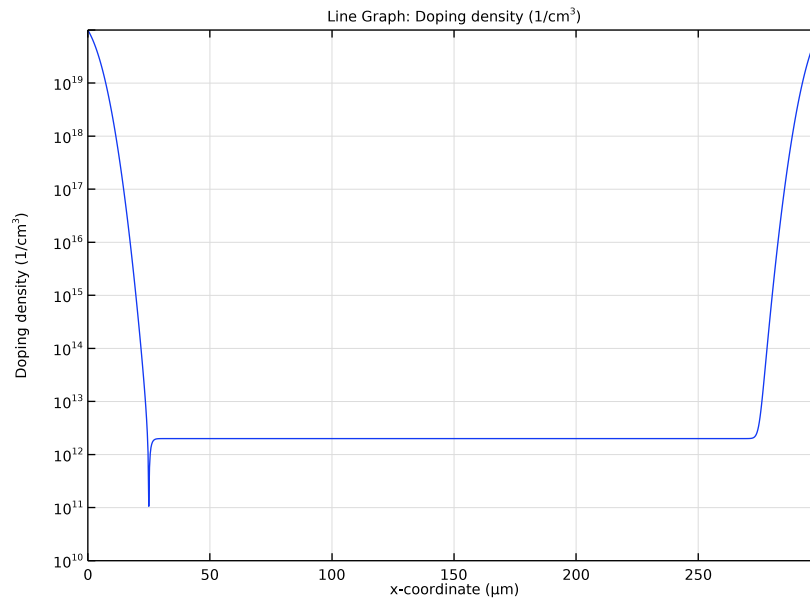
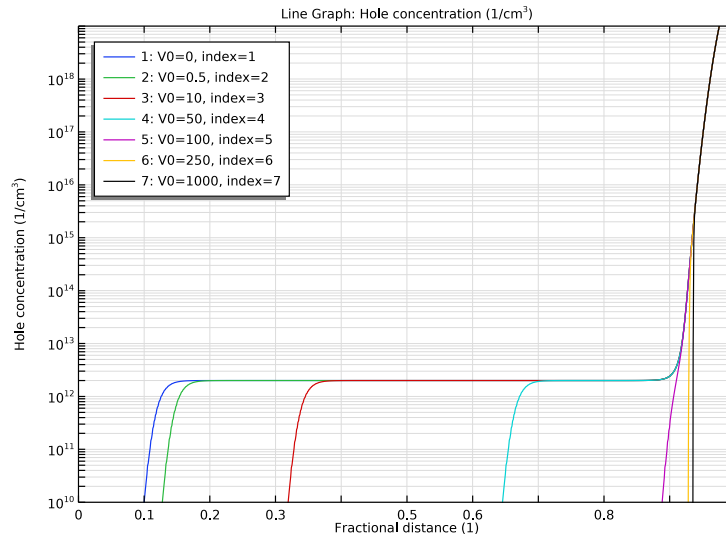
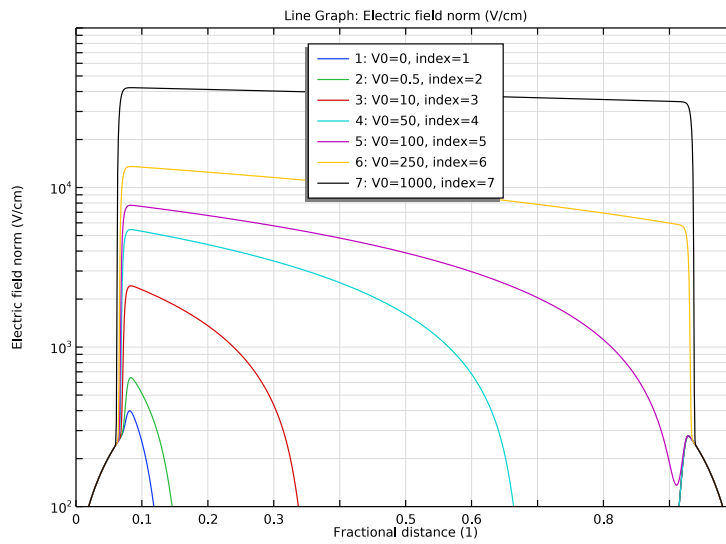

Figure 1: Doping profile.
Figure 2: Hole distribution at various reverse bias voltages.
Figure 3: Electric field distribution at various reverse bias voltages.
Following Ref. 1, the PIN diode is constructed from a 300 μm thick silicon wafer with heavy doping diffused into its two faces. The doping profile is shown in Figure 1, with parameters guessed from Fig. 3 of Ref. 1. As mentioned in the paper, recombination does not play a major role but is still included for completeness with a carrier lifetime of 100 μs . Maxwell-Boltzmann statistics is used as suggested by Eq. (4) and (5) in Ref. 1.
Figure 2 and Figure 3 show the hole distribution and electric field distribution at various reverse bias voltages, which compare well with Fig. 4A and 4B in the reference paper, respectively.